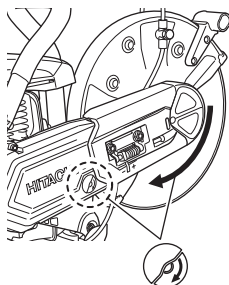

Fig. 8
3. Make sure the rotation direction of the diamond wheel conforms to the direction indicated on the clutch cover and install the diamond wheel. (Fig. 8)